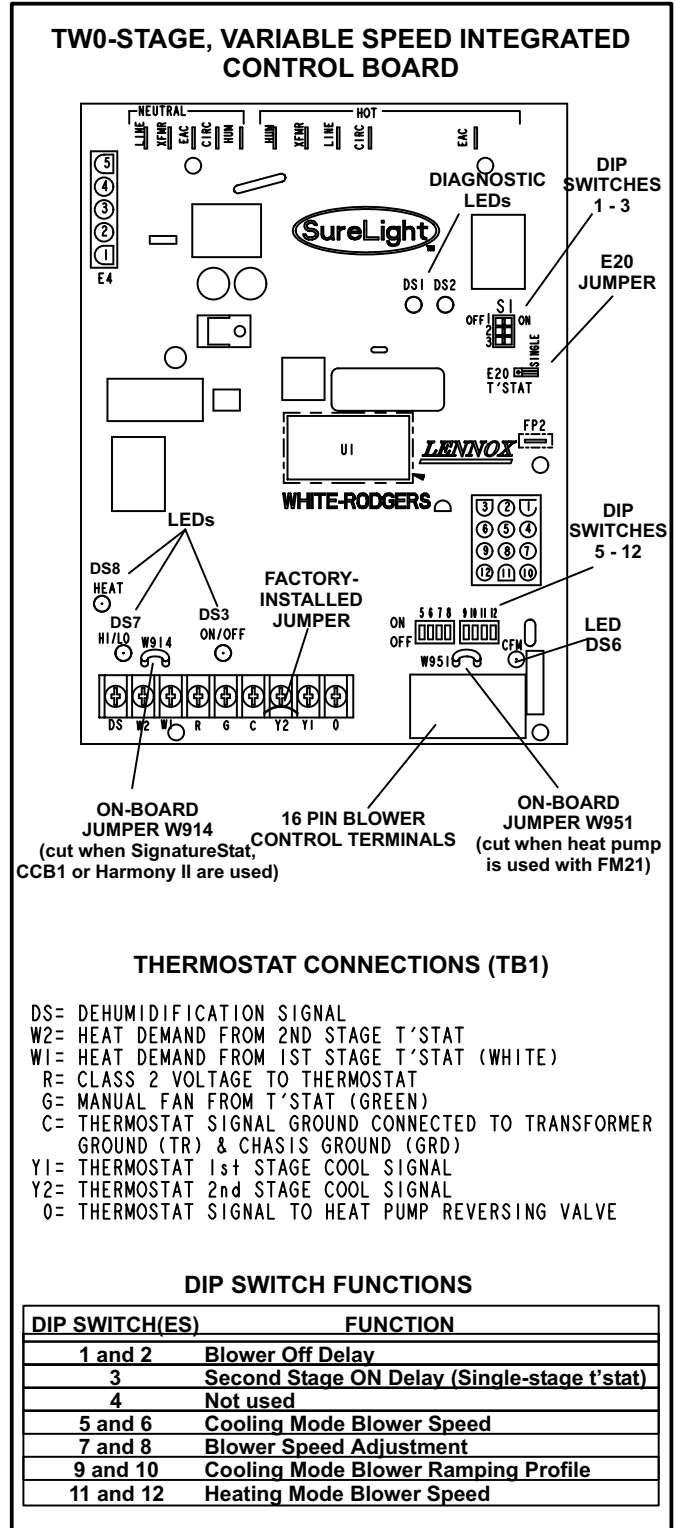

FIGURE 4
All G60UHV units are equipped with the Lennox two-stage, variable speed integrated SureLight control board. The system consists of a ignition / blower control board (figure 4 with control terminal designations in tables 1 through 4) and ignitor (figure 11). The board and ignitor work in combination to ensure furnace ignition and ignitor durability. The SureLight integrated board controls all major furnace operations. The board features two LED lights, DS1 and DS2 for troubleshooting and four LED lights (DS3, DS6, DS7 and DS8) to show furnace status. The board also has two accessory terminals rated at (1) one amp each. See table 5 for status code and table 6 for troubleshooting diagnostic codes.
The control can be utilized in two modes: SINGLE-STAGE thermostat or TWO-STAGE thermostat. The thermostat selection jumper E20, located just below dip switches 1 through 3 (figure 4), must be positioned for the particular application. The jumper is factory set on "TWO" for use with a two-stage thermostat with two stage heat. Re-position jumper to "SINGLE" for use with a single stage thermostat with two stage heat.
Diagnostic LEDs are labeled DS1 and DS2. See figure 4 for location of diagnostic LEDs.